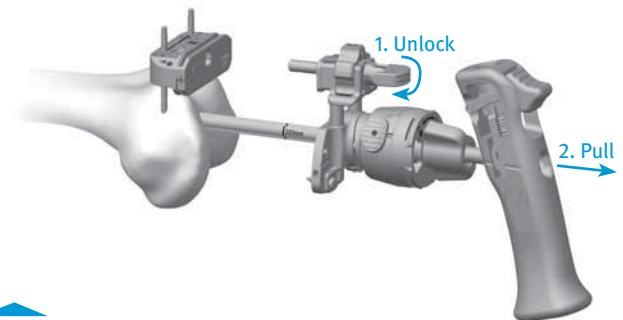

Fig. 13
- Flip the lock lever on the Adjustable Resection Tower to the unlocked, or “in-line”, position and pull the handle to remove the IM Rod and assembled distal resection instrumentation leaving only the Cut Guide attached to the femur (Fig. 13).